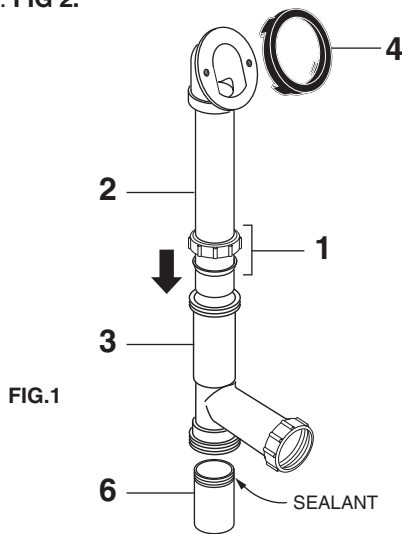

FIG.1
- Loosen SLIP JOINT NUT & SEAL (1) and install onto OVERFLOW TUBE (2). Install OVERFLOW TUBE ASSEMBLY (2) into the appropriate leg of the DRAIN TEE (3). Apply sealant to threads of TAILPIECE (6) and thread into DRAIN TEE (3). Install OVERFLOW GASKET (4) to OVERFLOW TUBE ASSEMBLY (2). (Adjust OVERFLOW GASKET (4) to contour of tub. FIG.1.
Note: Waste outlet can be installed either above the floor or below floor. Fig.1.